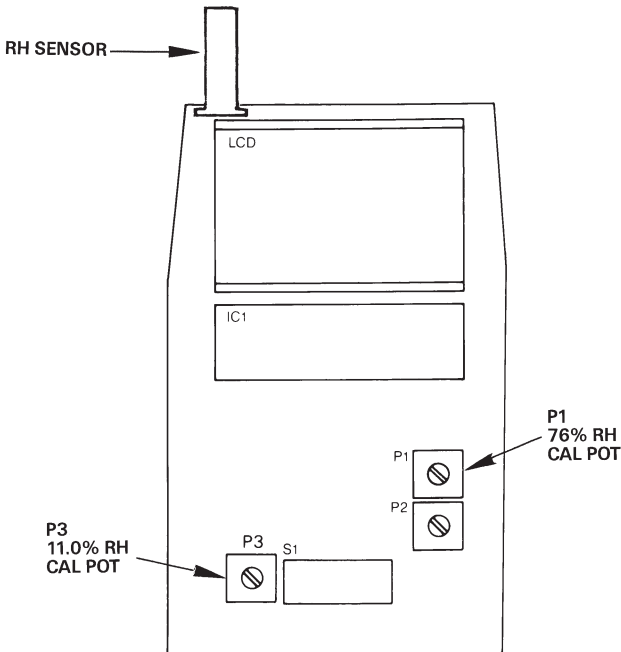

Figure 9-1 RH-10 Humidity Calibration Pots
3. Refer to Figure 9-1 for the location of the humidity calibration pots. Adjust the potentiometer P3 until the display reads 11.0 RH. If it is not possible to adjust the display to 11.0, contact the Customer Service Department at OMEGA Engineering .
Repeat steps #2, #3, #4 above, this time using the 76% salt solution container (sodium chloride). Adjust potentiometer P1 until the display reads 76.0 RH. (Refer to Figure 9-1 for pot location).